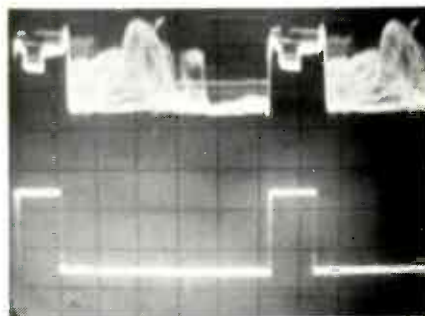
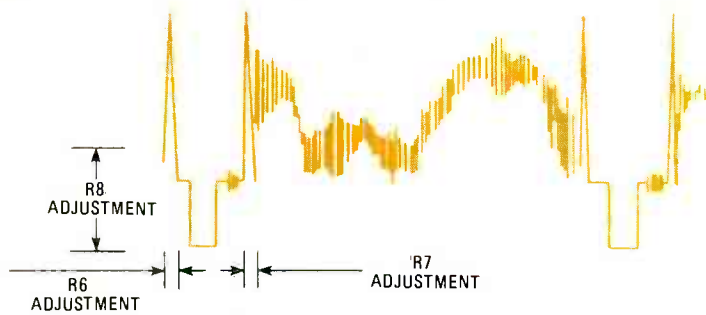

FIG. 8—UPPER TRACE shows scrambled signal; lower one shows gating pulse from decoder.
FIG. 10—IDEALIZED VERSION of signal in Fig. 9 shows critical decoder alignment points.
4. Adjust R6, R7, and R8 to obtain the waveform shown in Figs. 8, 9 and 10. First adjust R6 and R7, then R8, to obtain the waveform shown in Fig. 10. Some slight readjustment of R6 and R7 may be necessary to eliminate spiking at the leading and trailing edges of the horizontal-blanking pulses.